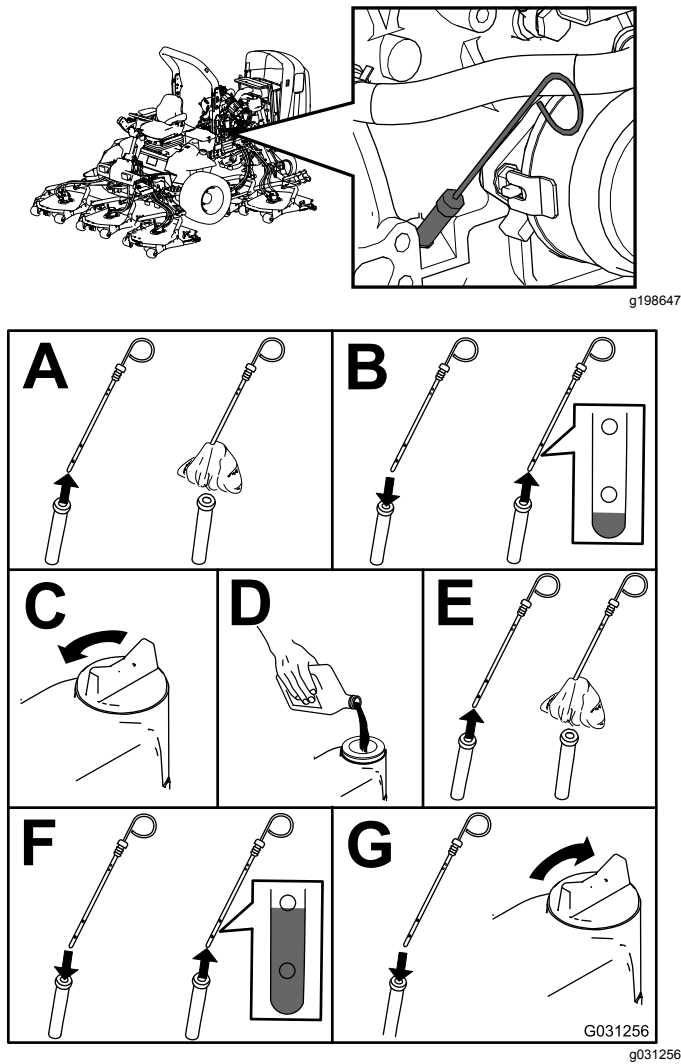

Figure 67
2. Check the engine-oil level (Figure 67).